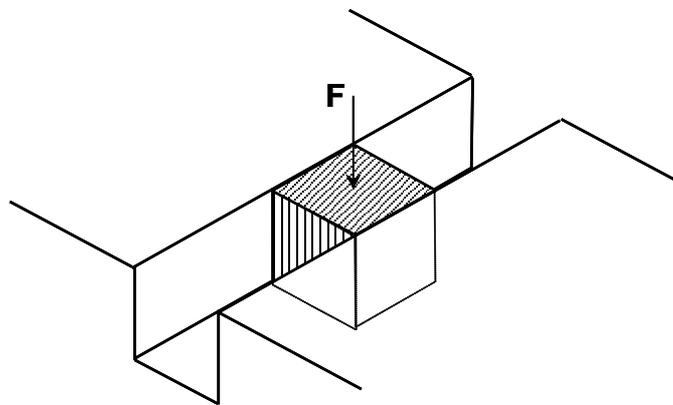

Figure 2
3. A butyl rubber mounting is designed to cushion a sensitive device against shock loading. It consists of a cube of the rubber of side-length  $L = 40\text{mm}$  located in a slot in a rigid plate, as shown in Figure 2. The slot and cube have the same cross-sectional dimensions, so that the strain in one direction is constrained to be zero. The slot surfaces are lubricated so that friction on the cube is negligible. The compressive load is  $F = 50\text{ N}$ .
(c) A variant is proposed in the design of the rubber mounting (Figure 2). The block is to be replaced with an axially loaded cylinder of rubber completely filling a cylindrical hole in the steel plate. Use the result in (a) to explain whether this is a good idea.